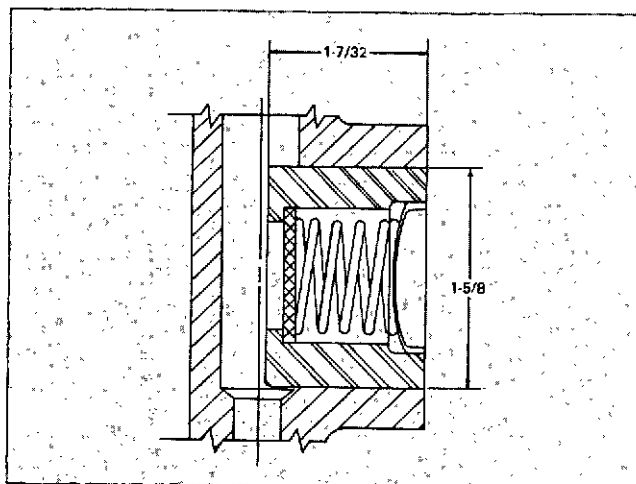

Fig. 1-1-43, V40180. Oil control valve installed
2. Align the scribe-line on the oil central valve housing; align the two (2) oil passage holes with those in cylinder block. Press housing into the bore until it is flush to 0.020 inch [0.508 mm] below the cylinder block face.
5. Drive expansion plug into housing bore with ST-1053 plug driver until flush with housing surface. See Fig. 1-1-43.